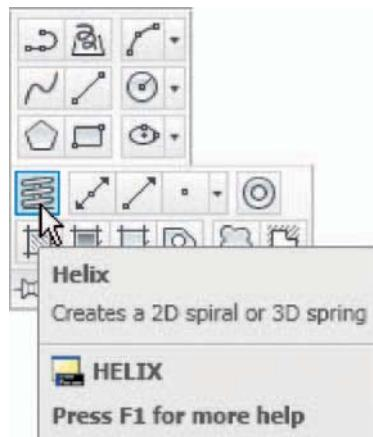

Fig. 14.36 The **Helix** tool in the **Home/Draw** panel
- Click the **Helix** tool icon in the **Home/Draw** panel (Fig. 14.36). The first of the **DYN** prompts appears. Enter the following at the command line using the **down** key of the keyboard when necessary.